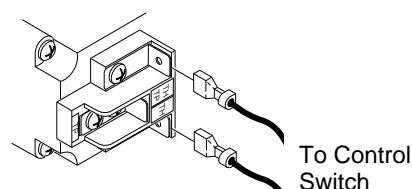

Figure 22 - Control Valve Terminals
5. Connect one terminal of the wire from ON/OFF switch to the THTP terminal on the valve. Connect remaining wire terminal to the TH terminal on the valve. Make sure that the wire terminals are in the positions on the unit as pictured in Figure 22. If wires are not connected as shown, the ON/OFF switch will not work.